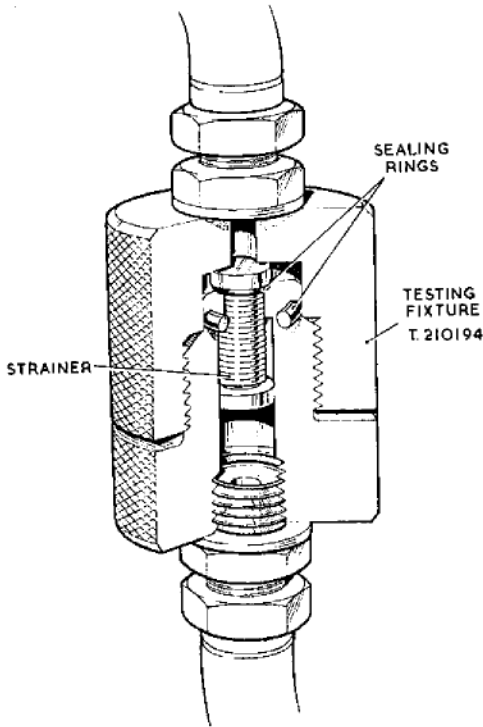

Fig. 6. Testing the strainer
- (1) Fit the strainer to the fixture T.210194 (fig. 6) connect the fixture and apply a flow of 50 gallons per hour. The indicated pressure drop must not exceed 8 lb. per sq. in. If this is exceeded, fit a new strainer and repeat the test.